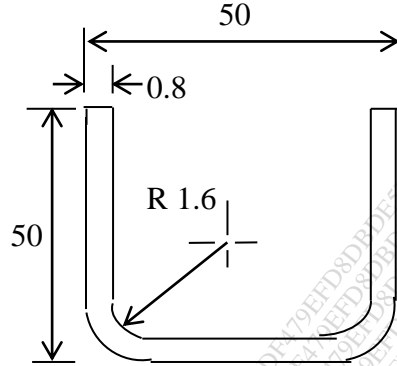

Fig.4
- b) The symmetrical cup work piece is shown in figure 4 has to be made from cold rolled steel (yield strength  $427\text{N/mm}^2$ ) 0.8mm thick. Make the necessary calculation for designing the drawing die for this part. 16